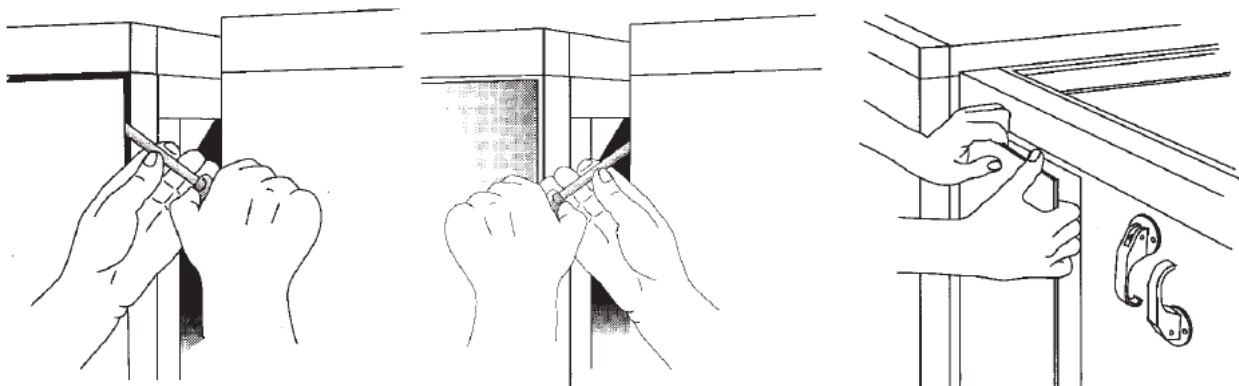

Figure 46: Removal of the external panel
- **CCE B – Housing type: Snap in construction** – To remove the external panel - start at the corners - use a screwdriver – refer to **Figure 46**. After removing the external panel, remove the insulation.